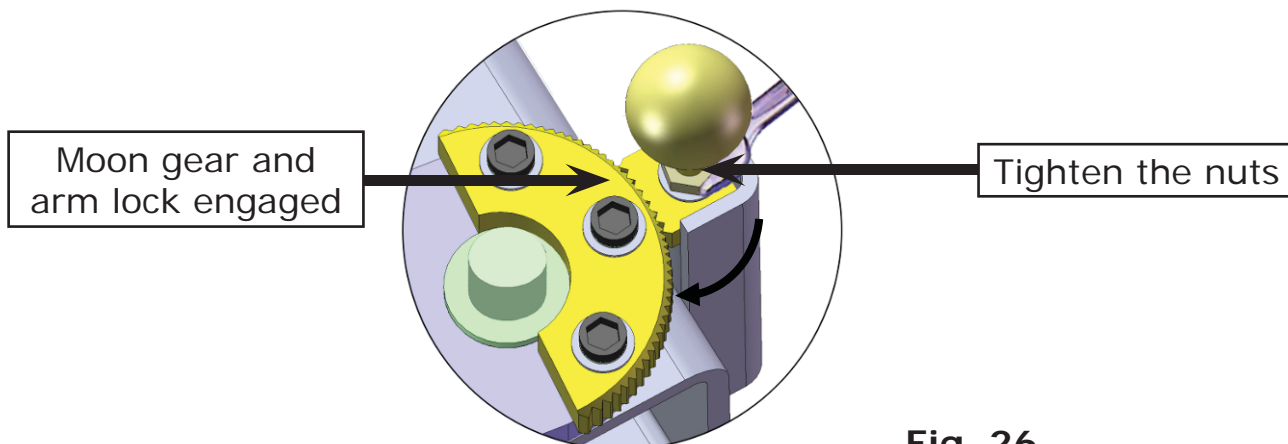

Fig. 26
4. Adjust the moon gear and arm lock so it meshes, tighten the bolts on the arm lock (See Fig. 26)